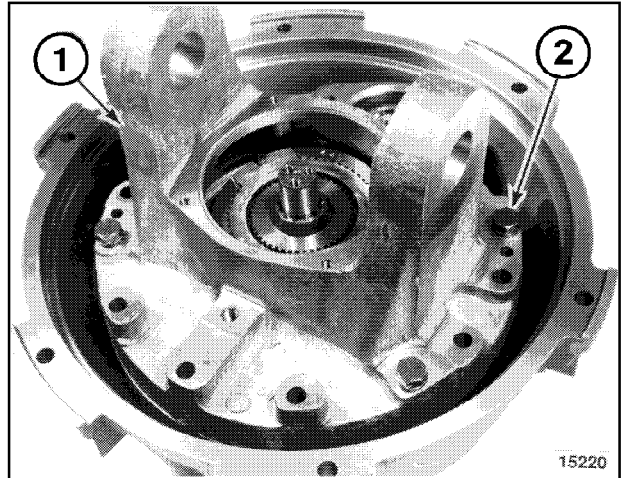

Figure 73
- J. Install gear case housing (1, Figure 73) over gasket, using alignment dowel pins for proper alignment. Install four bolts and lock washers (2).